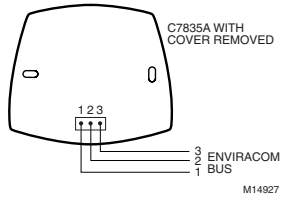

Fig. 4. DATS wiring to Envirocom™ bus.
5. Connect the three DATS terminals, see Fig. 4, using standard thermostat wire, to any convenient Envirocom 1,2, and 3 terminal connection. Observe that the red heating and green cooling lights come on momentarily.